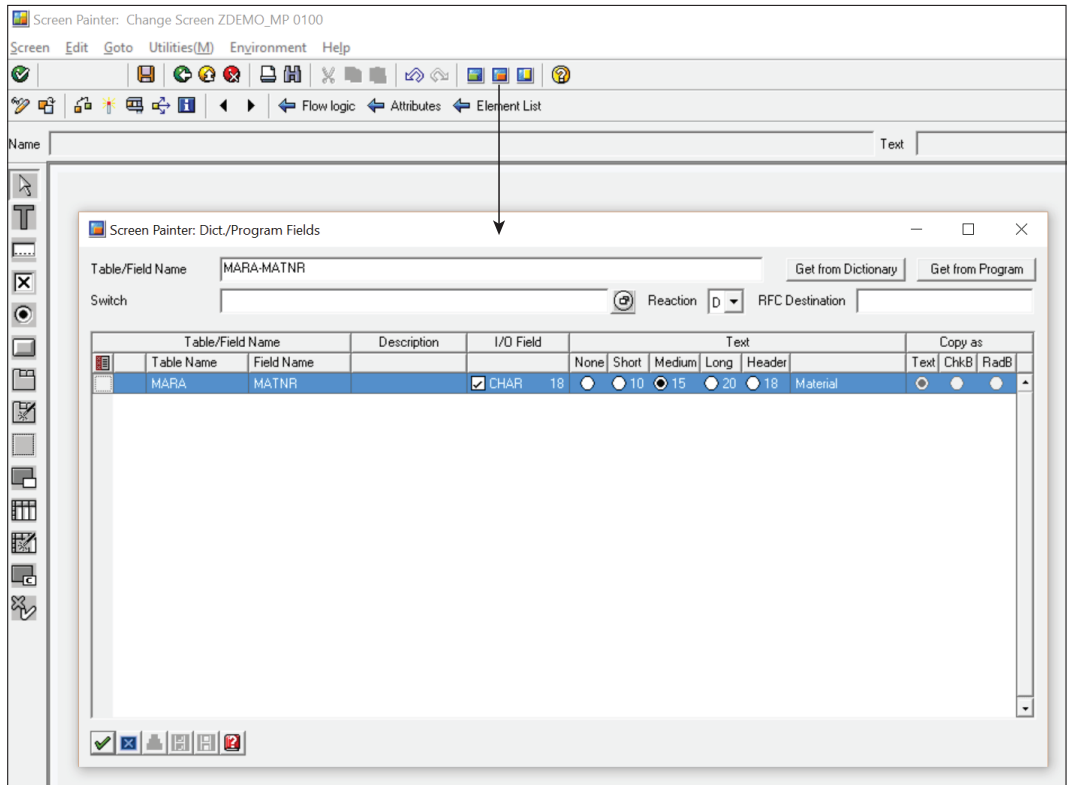

Figure 12.26 Using the Dictionary/Program Fields Button to Add I/O Elements
1. Select the DICTIONARY/PROGRAM FIELDS icon from the toolbar, as shown in Figure 12.26.
2. Click the **DICTIONARY/PROGRAM FIELDS** icon on the toolbar (see Figure 12.26) to select the fields for the table control. Enter the ABAP Data Dictionary table name or internal table name and select either the **GET FROM DICTIONARY** button or the **GET FROM PROGRAM** button, respectively. Select the fields that should be added to the table control and click **CONTINUE**.